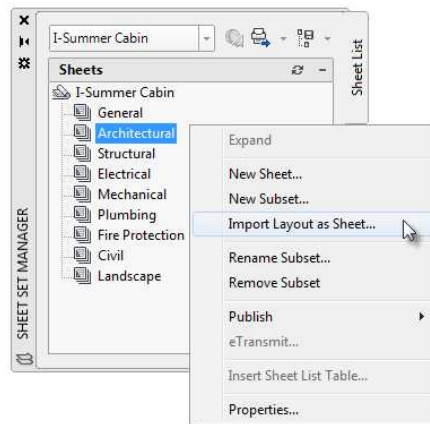

FIGURE 14.36: Importing an existing layout into Sheet Set Manager
1. Right-click the Architectural group on the Sheet List palette of Sheet Set Manager, and choose Import Layout As Sheet (see Figure 14.36).